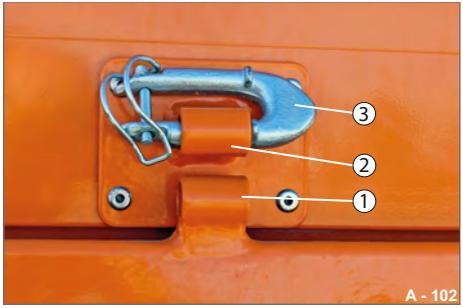

Fig. 106 U-bracket, parked
- ▶ Guide the U-bracket (Fig. 106/3) into the hinge bearing (Fig. 106/2) of the platform gate attachment.